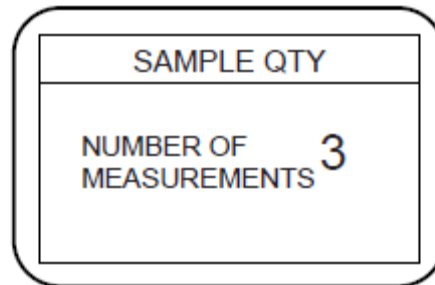

Figure 5
2.1.7 By pressing the «▼» button, place the cursor on the menu option named "SAMPLE QTY". Press the «↵» button. The graphic display will look like the one depicted in Fig. 5.